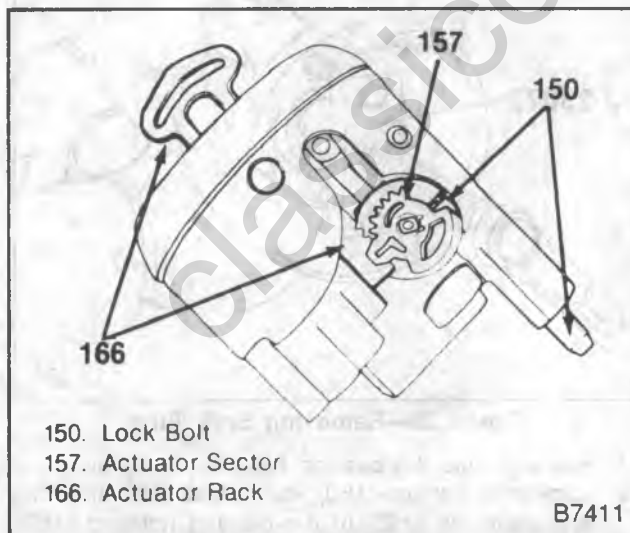

Figure 25—Installing Lock Bolt and Rack Assemblies
7. Rack (166) and spring (165). The block tooth on the rack should engage the block tooth on the sector (figure 25).
8. Tilt release lever (163).
9. Lock bolt spring (151) and retaining screw (148).